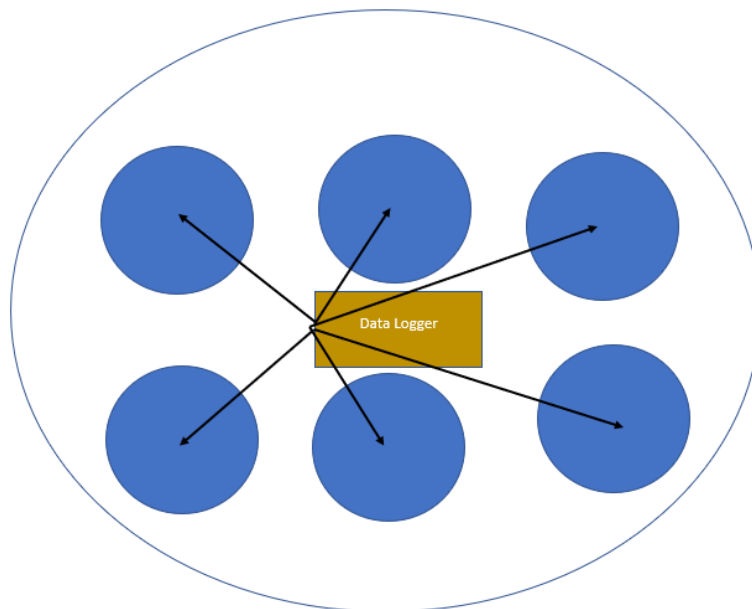

Figure 1.
- As shown in the Figure 1, place the data logger in the center of the oven